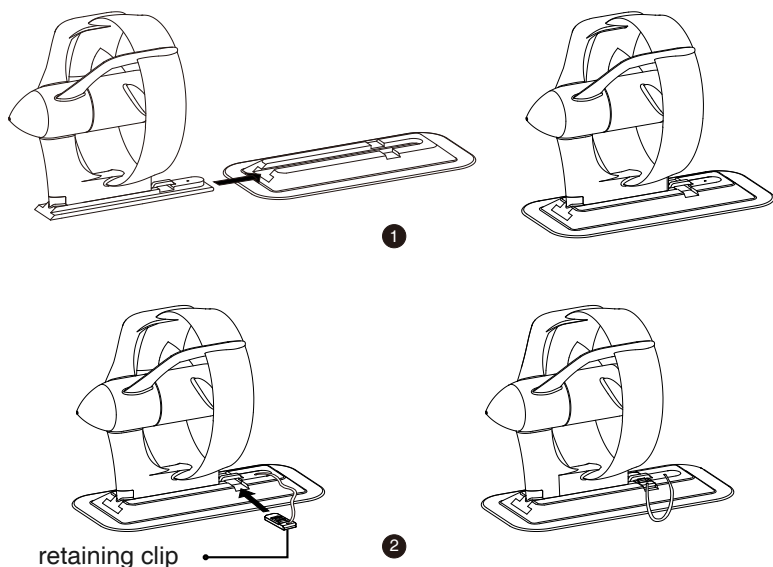

Figure 3-4
- Step2: Insert the retaining clip into the place indicated in Figure 3-4 to fix the adapter.